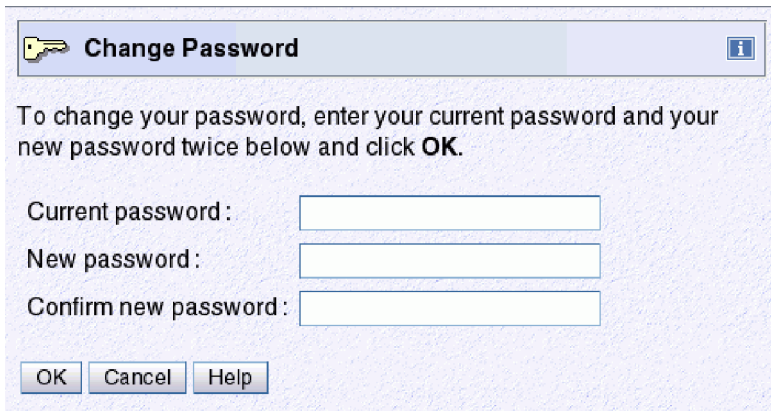

Figure 3. Context sensitive help not enabled
1. Click on the blue **i** that appears in the upper right corner of the task window. (see Figure 3 on page 6)